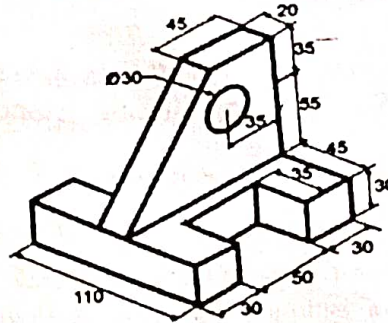

FIG. 3
10. The pictorial view of the machine component is given in fig.3. Draw the elevation and right side view.